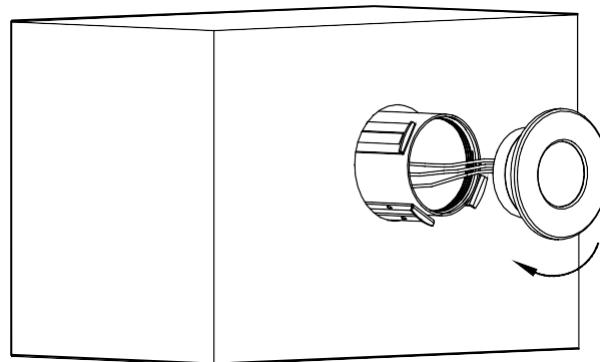

FIG. 8a
8. For installation into masonry, it is important that the fixture be completely sealed. Attach metal conduit to the canopy, then use mortar to secure canopy in place. (Figs. 8a 8b)